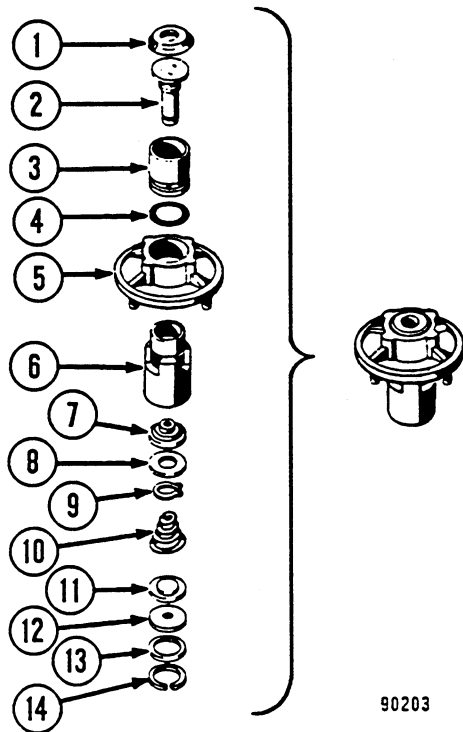

FIGURE 5-4. BARRIER PLATE ASSEMBLY
5. To disassemble barrier plate assembly, remove spiral retainer ring (14, Figure 5-4). Use caution as spring pressure will force out disc ring (13), exhaust poppet (12), poppet support plate (11) and spring (10) from cage (6).
6. Push piston (2) down until fully depressed and remove retainer ring (9) from groove in end of piston. Remove cage (6) from barrier plate (5) and tap cage on a block of wood to remove support disc (8) and inlet poppet (7). Remove sleeve (3), O-ring (4), piston (2) and "U" cup (1) from the barrier plate.
2. Install piston sleeve (3, Figure 5-4) with new O-ring (4) into top of barrier plate (5). Install piston (2) and U-cup (1), open side down, into piston sleeve (3) making sure U-cup seal is properly seated. Place cage assembly (6) over the piston rod end and into the barrier plate. Install inlet poppet (7) and support disc (8) on the piston rod end (2). Fully depress piston into cage and install retaining ring (14) into the groove on the bottom of the piston rod end.
3. Install spring (10), small end up, poppet support plate (11), exhaust poppet (12) and disc ring (13) into lower end of cage (6). Compress spring and install new retainer ring (14).